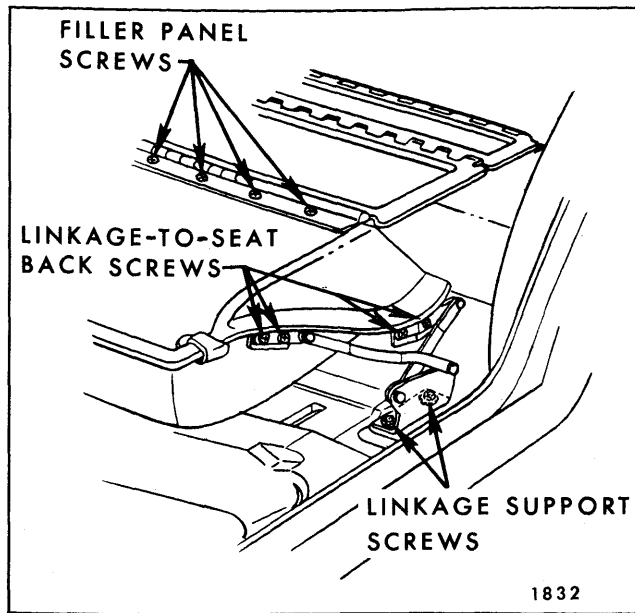

Fig. 10-64—Folding Second Seat Back Linkage and Filler Panel
2. On both sides of seat back, remove screws securing seat back to folding linkage (Fig. 10-64) and remove seat back and panel assembly from body.